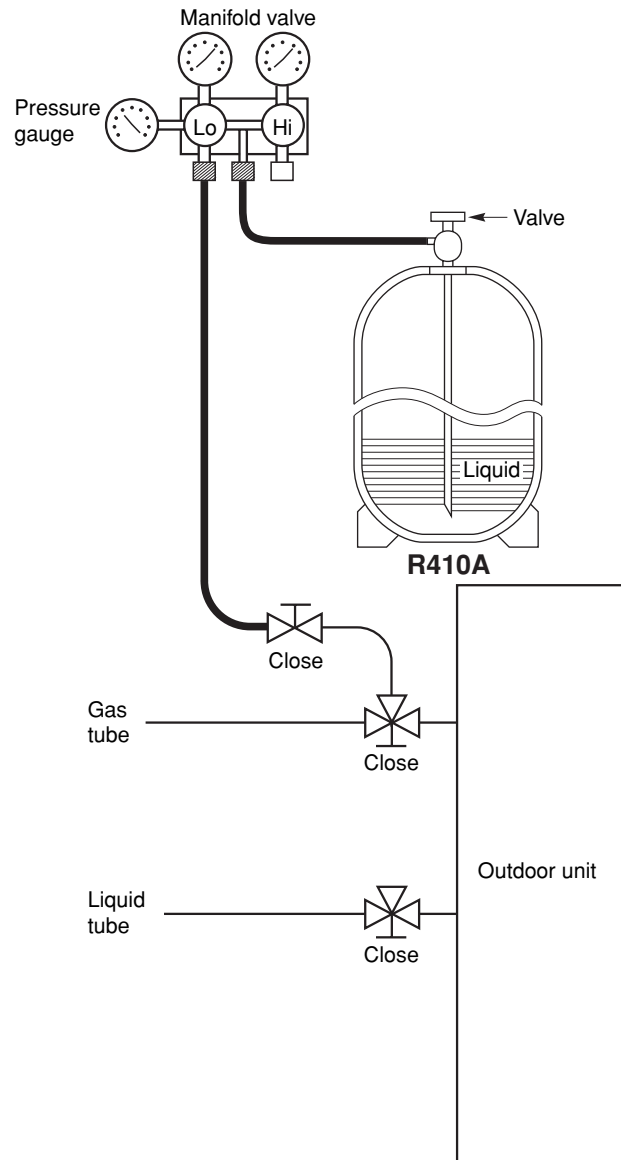

Fig. 8-5
- Charging additional refrigerant (calculated from the liquid tube length as shown in P. 12, Amount of additional refrigerant charge) using the liquid tube service valve. (Fig. 8-5)